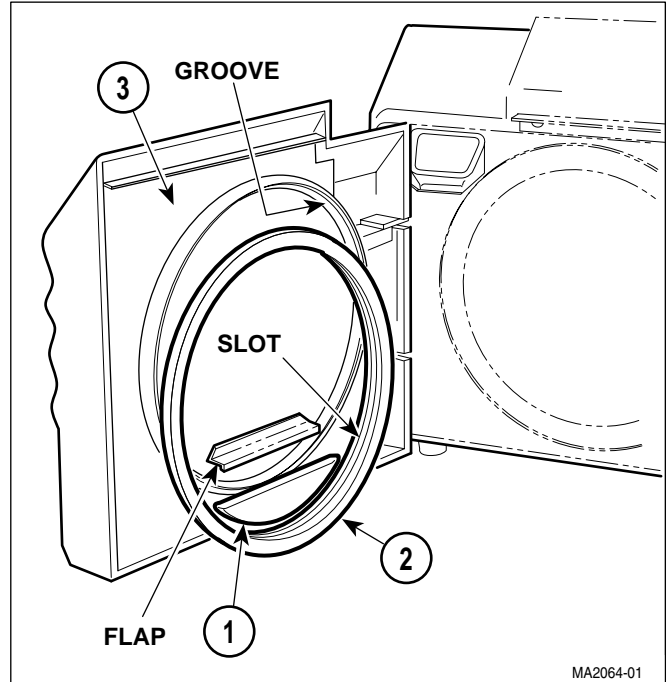

Figure 4-22. Door Gaskets Removal / Installation
- (1) Open sterilizer door.
- (2) Remove dam gasket (1, Figure 4-22) and door gasket (2) from door (3).